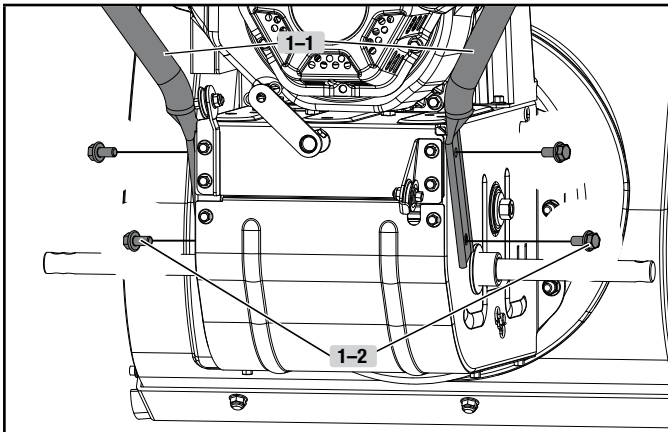

Figure 1
1. Attach the lower handle (1-1) onto the unit body with bolts (1-2) (Fig. 1). Repeat on the other side.